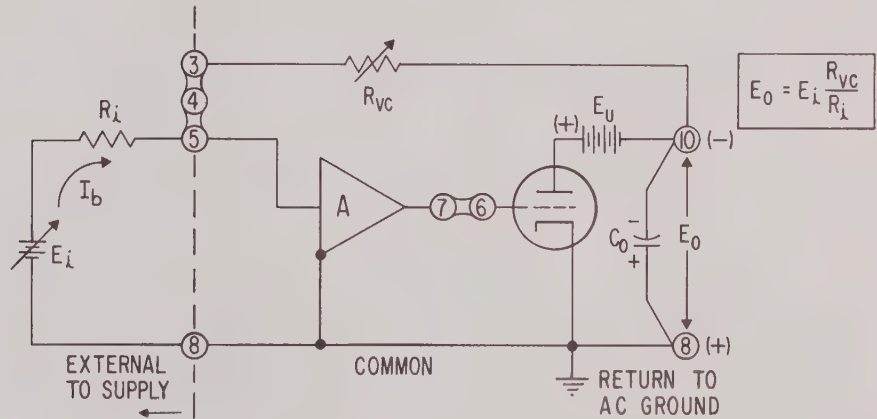

FIG. 3-6 VOLTAGE PROGRAMMING, OPERATIONAL NOTATION
which represents the closed loop gain of the system, is held constant, the output voltage E_o will vary linearly with E_i . Referring back to equation (4) we see that the expression is similar to the inverted amplifier equation for an operational amplifier. The voltage programmed power supply does in fact become a unipolar power amplifier with potentially very high power gain but with limited frequency response. (Refer to FIG. 3-6). The limited frequency response is largely due to the effect of the output capacitor C_o acting as a low-pass filter and preventing the output voltage (E_o) from varying rapidly. High speed models are available which have no output capacitor and can program at 500,000 volts per second. These models contain special circuitry to compensate the amplifier for stability.